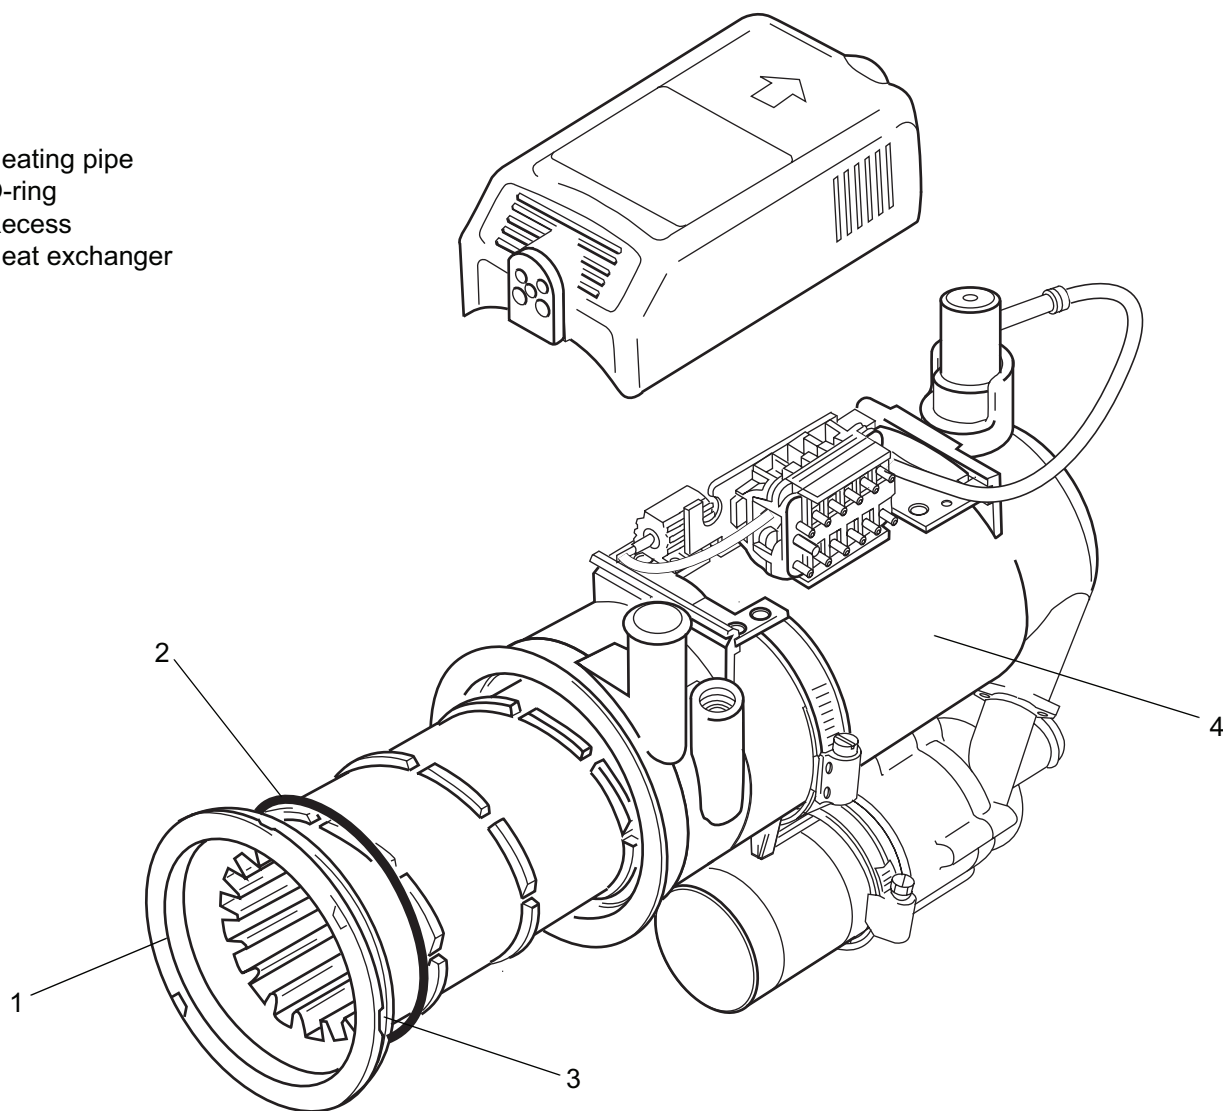

Fig. 907 Replacement of Heat Exchanger
9. Engage two screw drivers in recess (3, Fig. 907) and lever heating pipe (1) out of heat exchanger.
10. Remove O-ring (2).
1. Apply Copaslip (Ident. No. 105898) to mating surfaces between heating pipe (1, Fig. 907) and heat exchanger (4).
2. Fit new O-ring (2), slide heating pipe (1) into heat exchanger (4) and locate for assembly.